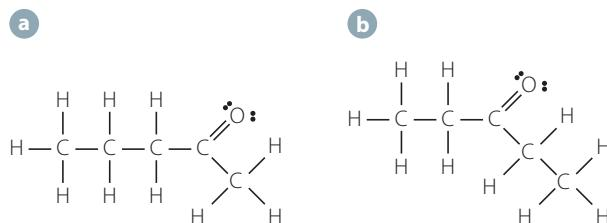

FIGURE 15.11 Possible structures for compound X
- 10 The chemical composition of compound X was found to be $C_5H_{10}O$. The two possible structural isomers are shown in Figure 15.11.